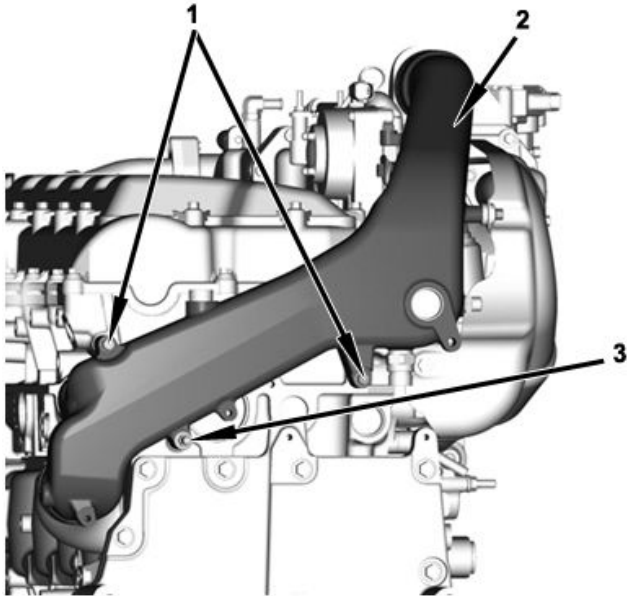

Figure 31. Coolant Manifold.
10. Install coolant manifold (Figure 31, Item 2), two M8 x 45 bolts (Figure 31, Item 1), and one M8 x 50 x 16 stud bolt (Figure 31, Item 3) finger tight. Torque bolts to 26 lb-ft (35 N·m).